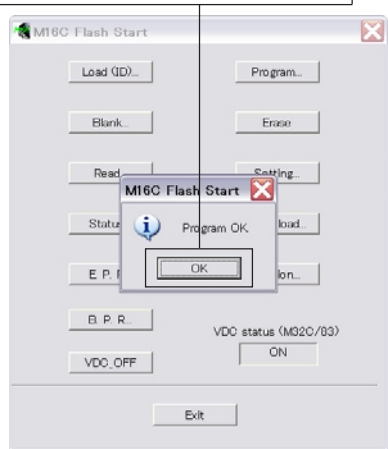

Fig. 6
9. When the program transmission is completed, the screen appears as shown below. (Fig. 6)
(Fig. 6)